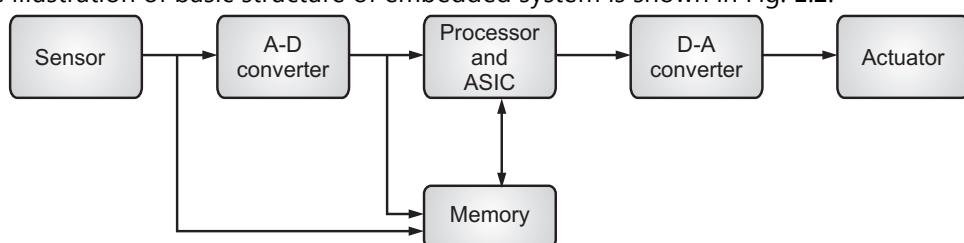

Fig. 1.2: Basic structure of Embedded system
- The illustration of basic structure of embedded system is shown in Fig. 1.2.
- As shown in Fig. 1.2, embedded system consists of sensor, ADC (Analog to Digital Converter), processor, DAC (Digital to analog Converter), actuators, memory etc.